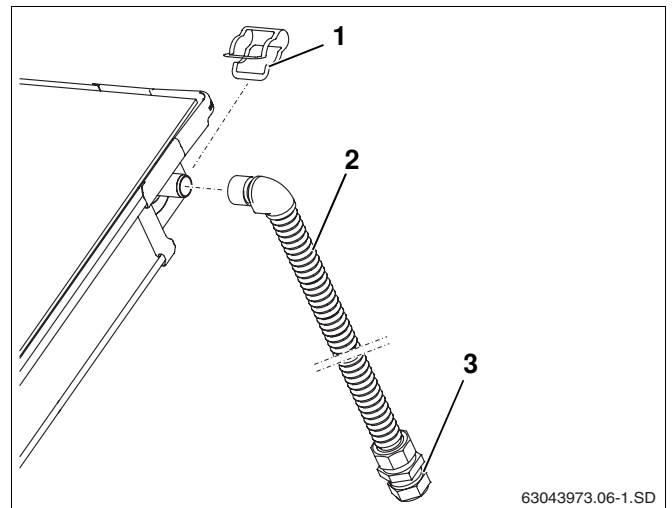

Fig. 33 Fitting flow line (with no vent on roof)
- Push connection pipe (1000 mm, Fig. 33, **Item 2**) onto the flow connection on the collector array and fix in place using bracket (Fig. 33, **Item 1**).
- Connect header pipe to the compression fitting (Fig. 33, **Item 3**).